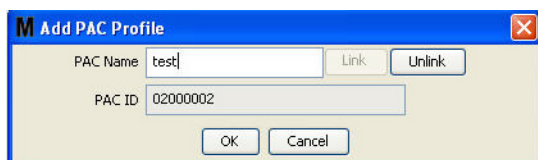

FIG. 115
5. The PAC ID number displays in the PAC ID field (FIG. 115). Click OK to close the screen and save the changes.
Notice the “Link” button in FIG. 115 is no longer active and instead an “Unlink” button is active. Clicking the “Unlink” button breaks the association between the PAC and the Matrix PC.